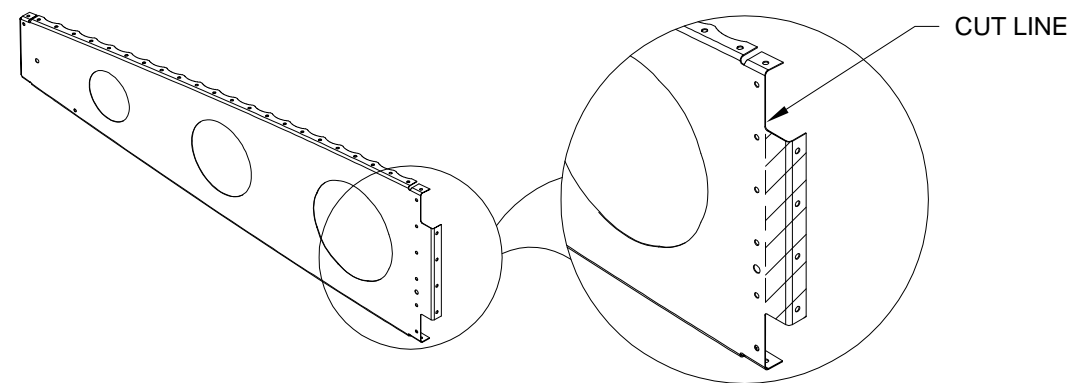

FIGURE 1: W-1210 MAIN RIB FWD FLANGE TRIM (LEFT SHOWN)
Step 2: Select six of the 13 W-1210-L Main Ribs and trim the fwd flange as shown in Figure 1.
Step 3: Trim the forward flange of all 13 W-1210-R Main Ribs as shown in Figure 1.